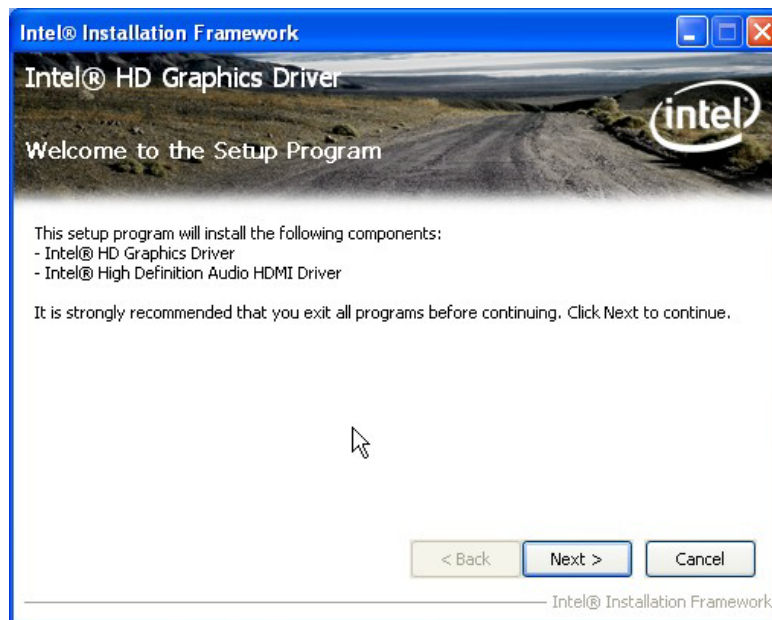

Figure 6-8: Graphics Driver Welcome Screen
- Step 4: The **Welcome Screen** in Figure 6-8 appears.